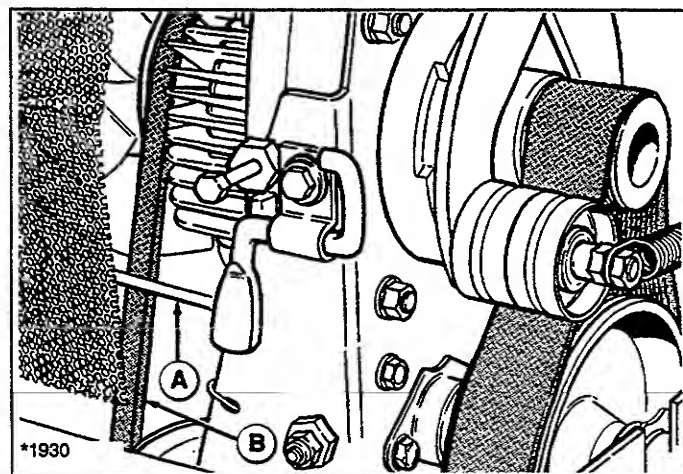

Figure 48. Transmission Pulley Belt Stop Location
13. See figure 48. Check belt stop at transmission pulley. To adjust, loosen mounting hardware, position belt stop, then tighten hardware.